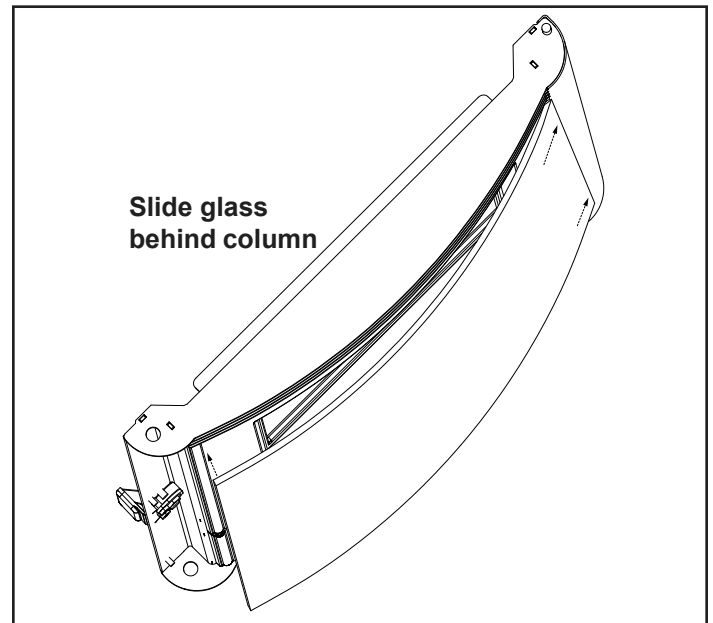
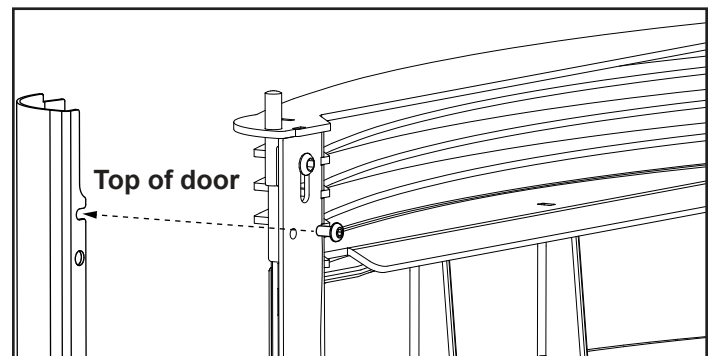

Figure 3
Figure 4
Step 3 - Installing glass: *If glass is not being installed move onto step 4.* Install right side column, do not tighten screws. Prior to installing glass make sure the end marked "Top" is up. Slide glass behind right hand column and push glass flush with door and center glass. Figure 3. Install the left column and tighten (3) 10-24 x 3/8" Button Head Screws at the top, center and bottom of the door, tighten right side column. Figure 4. **Note: Use 1/8" Allen Wrench supplied with stove.**
Step 4 - Installing columns with no glass: Door must be slightly open. Insert right column from the side. While holding column to the door swing door open and install (3) 10-24 x 3/8" Button Head Screws at the top, center and bottom of the door. Figure 4. Repeat step for other side. **Note: Use 1/8" Allen Wrench supplied with stove.**